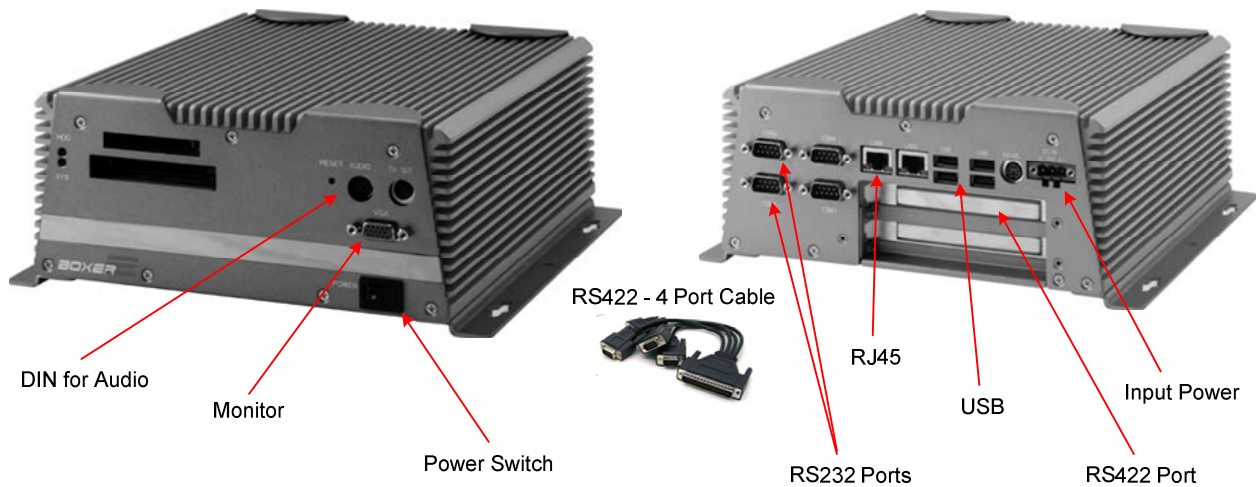

Figure 4 – Graphic Control Module II-HD (GCM II-HD) Connections
Figure 4 shows the connection ports on the GCM II-HD assembly. Inside the GCM II-HD is a RS422 expander board that comes with a four (4) port cable. Only Com 1 and Com 2 are active for the RS232 ports and LAN 1 for the RJ45 network port. The audio port uses a DIN connector (DIN adapter cable provided).